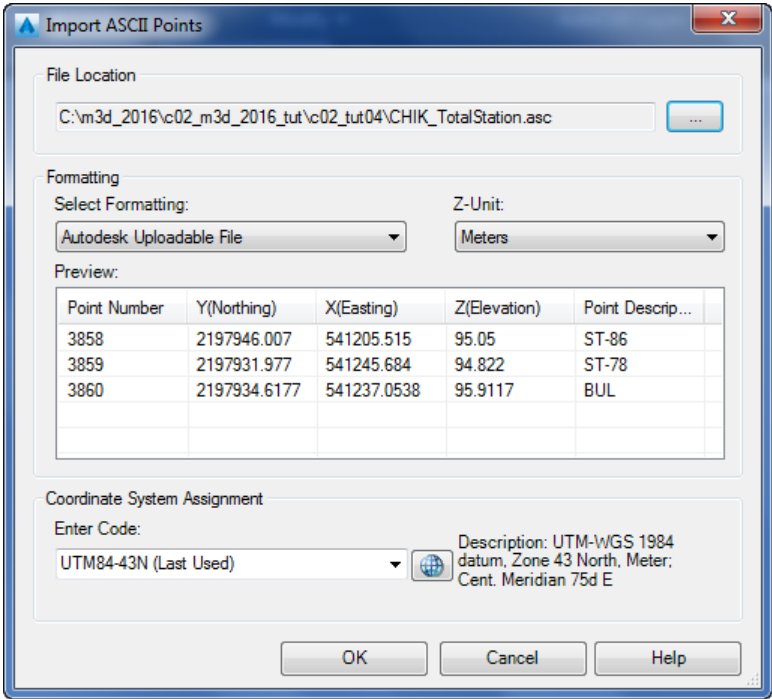

Figure 2-34 The **Import ASCII Points** dialog box displaying the preview of the selected data
- 5. Next, choose the **OK** button; the **Import ASCII File** dialog box is closed. Notice that the path of the selected file is displayed in the **File Location** edit box of the **Import ASCII Points** dialog box. Also, preview of the selected data is displayed in the **Preview** area, as shown in Figure 2-34.